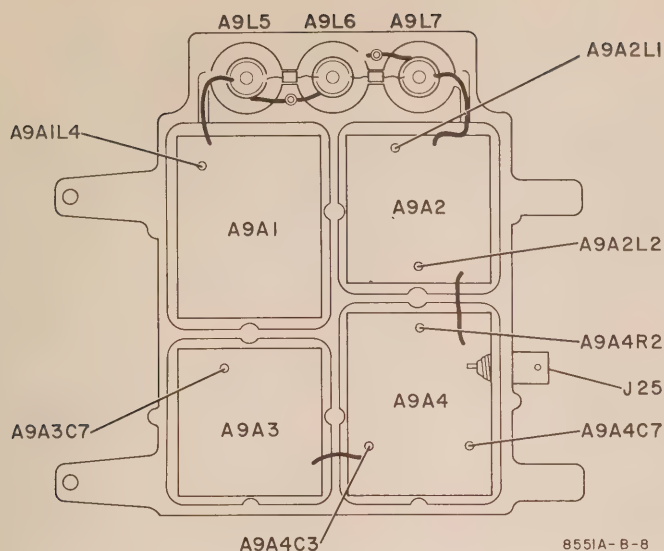

Figure 5-8. Location of Adjustments in A9 Converter Assembly
b. Locate Converter Assembly A9, top right-hand side of 8551 (see Figure 7-2); also locate 1800MC DRIVER OUTPUT Connector J25 (see Figure 5-8).
- Hold pickup loop just close enough to A9A3 board (Figure 5-8) to get a reading on counter.